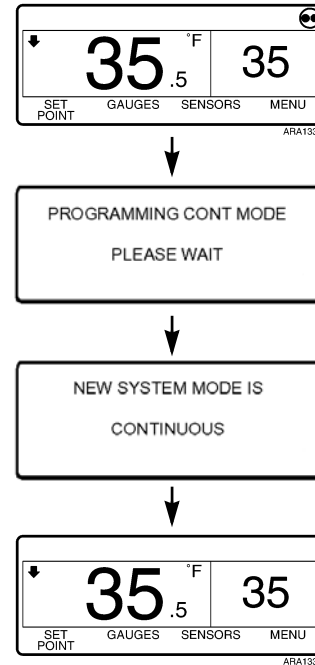
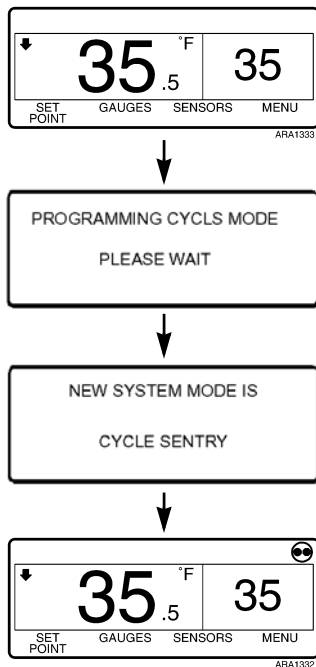

Figure 48: Screen Sequence for Changing from CYCLE-SENTRY Mode to Continuous Mode
Figure 49: Screen Sequence for Changing from Continuous Mode to CYCLE-SENTRY Mode
2. The “Programming Continuous Mode” or “Programming CYCLE-SENTRY Mode” Screen briefly appears. See Figure 48 and Figure 49.
3. The “New System Mode is Continuous” Screen or the “New System Mode CYCLE-SENTRY” Screen briefly appears. See Figure 48 and Figure 49.
- The Standard Display appears showing the new mode. See Figure 48 and Figure 49.